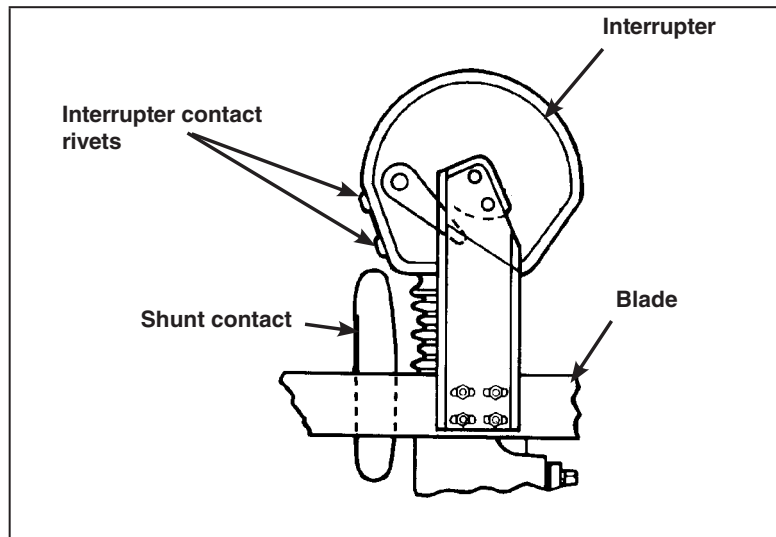

Figure 43. Blade assembly moving in opening direction.
- (f) Move the blade in the *opening* direction and verify each blade shunt contact firmly engages its respective interrupter contact rivets before the blade contacts disengage from the stationary main contact assemblies. See Figure 43. The shunt contacts may be bent as required to conform to these conditions.